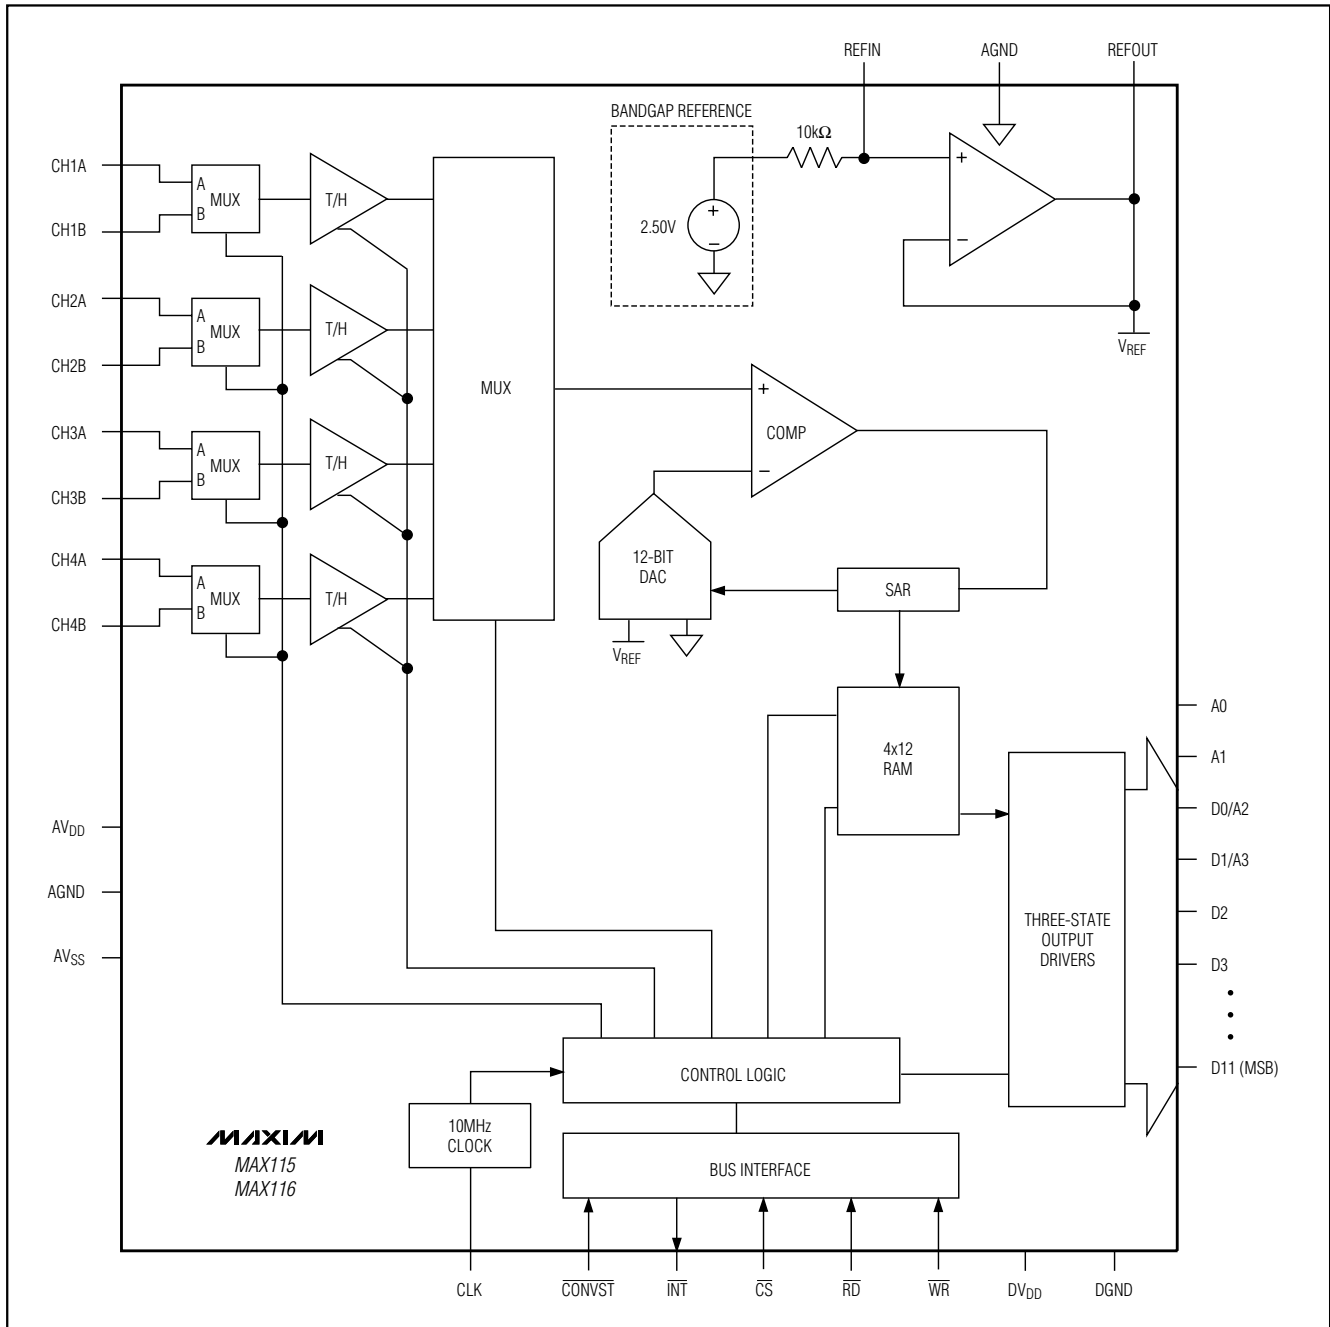

Figure 2. Functional Diagram
**Note 9:** See Figure 2.
The MAX115/MAX116 use a successive-approximation conversion technique and four simultaneous-sampling track/hold (T/H) amplifiers to convert analog signals into 12-bit digital outputs. Each T/H has two multiplexed inputs, allowing a total of eight inputs. Each T/H output is converted and stored in memory to be accessed sequentially by the parallel interface with successive read cycles. The MAX115/MAX116 internal micro-sequencer can be programmed to digitize one, two, three, or four inputs sampled simultaneously from either of the two banks of four inputs (Figure 2). The MAX115/MAX116 can operate with either an external or internal clock. For internal operation, connect CLK to DVDD.
The MAX115/MAX116 have eight conversion modes plus power-down, which are programmed through a bidirectional parallel interface. At power-up, the devices default to the Input Mux A/Single-Channel Conversion mode. The user can select between two banks (mux inputs A or mux inputs B) of four simultaneous-sampled input channels, as illustrated in Figure 2. An internal microsequencer can be programmed to convert one to four channels of the selected bank per sample. For a single-channel conversion, CH1 is digitized, and then INT goes low to indicate completion of the conversion.